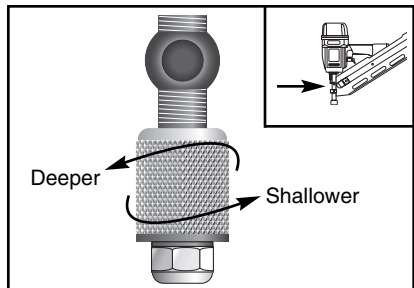

Figure 4. Depth adjustment knob located on nailer nose guide.
1. If the nail is driven too far into the workpiece, rotate the knob clockwise as shown in **Figure 4**)